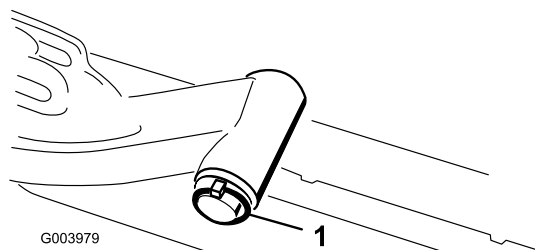

**Figure 17**
12. To lock the steering on the cutting units, secure the pivot yoke to the carrier frame with the snapper pin (Figure 17).